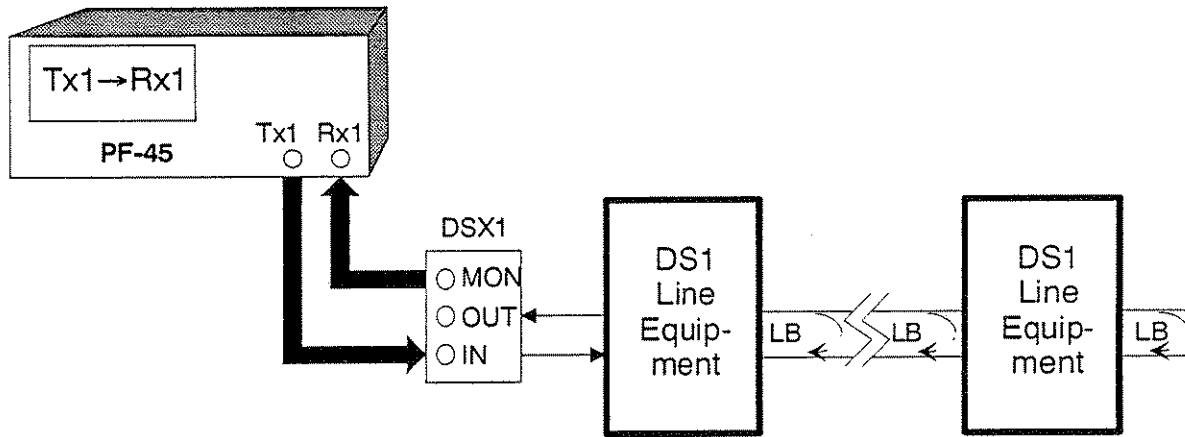

Figure 4-4: Tx1->Rx1 Mode
[Tx1->Rx1] mode (Fig 4-4), performs DS1 testing at DS1 line rate. The DS1 test patterns include QRSS for standard bit error testing, and digital words such as 1-in-8 and 3-in-24 for stress testing DS1 transmission equipment. The test object can be any portion of a network with DSX1 appearances, such as the CSU loopback test shown.
1. - Connect the PF-45 DS1 receive jack [14] to the monitor jack of the incoming DS1 at the DSX cross-connect panel with the appropriate cable, as shown in Figure 4-4.
- Connect the PF-45 DS1 transmit jack [13] to the input jack of the outgoing DS1 at the DSX cross-connect panel with the appropriate cable, as shown in Figure 4-4.